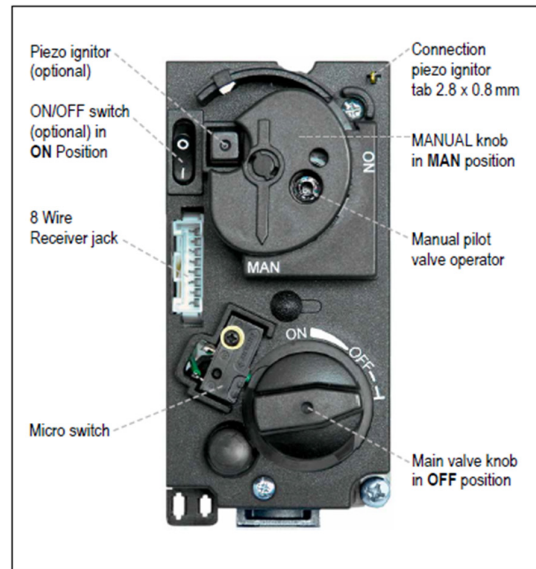

Figure 24: Combination control, cover
- Turn MANUAL knob on valve to the **ON**, full counter-clockwise ↺ position (see figure 24, page 9).
5. Wait five (5) minutes to clear out any gas. Verify that no gas is in the area around the appliance, including near the floor. **If you detect gas STOP! Follow “WHAT TO DO IF YOU SMELL GAS” in the safety information on page 3.** If no gas is present, proceed to step 6.
8. Fully push down manual pilot valve operator and hold in, to start pilot gas flow (see figure 24).
Change the ignition cable from the receiver to the valve (see figure 24). Push in the piezo ignitor to ignite. If pilot does not stay lit, wait five (5) minutes and repeat.